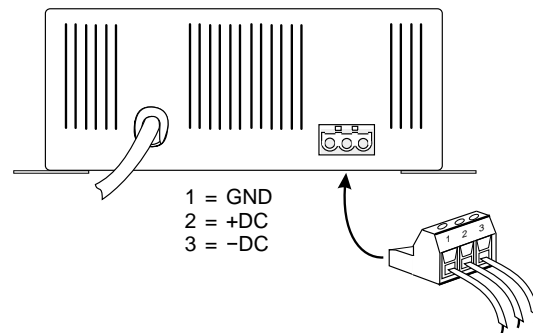

Figure 1 Model 712 cabinet showing 3-position plug-in terminal strip.
3.6 DC OUTPUT CONNECTIONS Before connecting to the DC output ensure that mains power is not connected. Be certain that the DC output LED is not lit. The DC-output connections are made via a 3-position plug-in terminal strip. The terminal strip is located on the bottom face of the unit, adjacent to the where the mains power cord exits the chassis, as illustrated in Figure 1. Remove the terminal strip by firmly grasping it with your fingers and pulling it straight away from the cabinet. Do not wire the terminal strip while it is attached to the power supply. Once it is removed, a small straight-blade screwdriver is required to loosen the clamp screws. The interconnecting wires are slipped into the openings of the terminal strip, and then the screws are tightened to secure the wires into place. A minimum wire gauge of #18 AWG or larger is recommended. (Remember that the smaller the AWG number, the larger its current rating.) Although not required, using a wire that is "heavier" than is technically necessary will help to minimize the resistance, and the resultant voltage drop, between a power source and the equipment being powered. After the wires are secured into the terminal strip, plug it back into the socket on the Model 712. Ensure that the terminal strip is firmly mated with the socket.